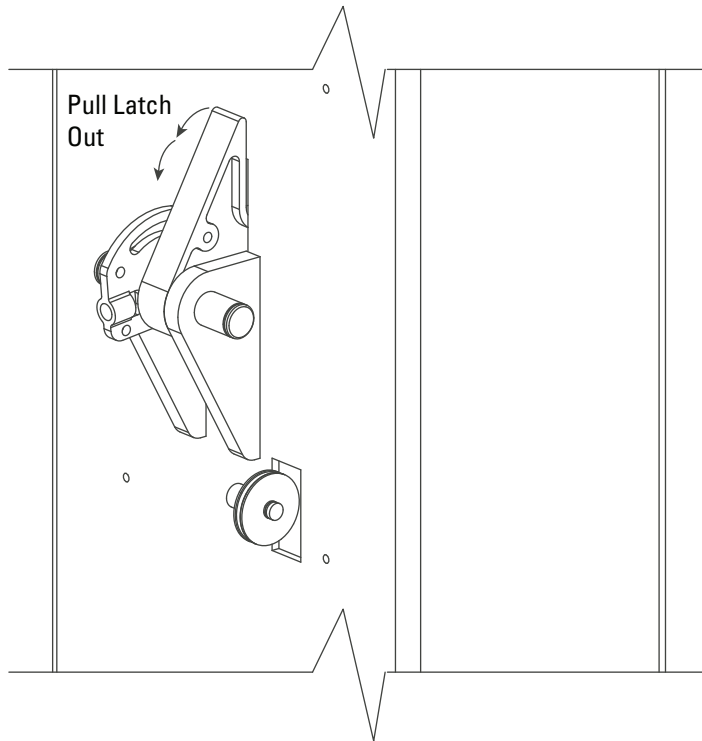

Figure 6
6. Carriage Placement. Disengage the latch by pulling out the latch on the column, Figure 6. Slide the carriage to the leg's baseplate. Engage the latch by releasing the latch. Slide the carriage up until the first "click" is heard. Repeat the process for the other carriage.